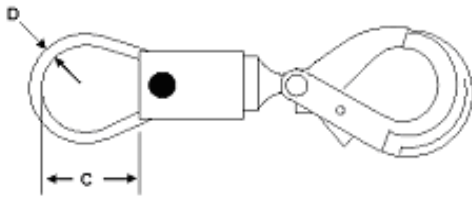

Figure 3. Swivel Dimensions
- c. Inspect the swivel for the dimensions shown in figure 3 and table 1. If dimensions exceed those in table 1, remove the swivel from service. See C Refurbishment.